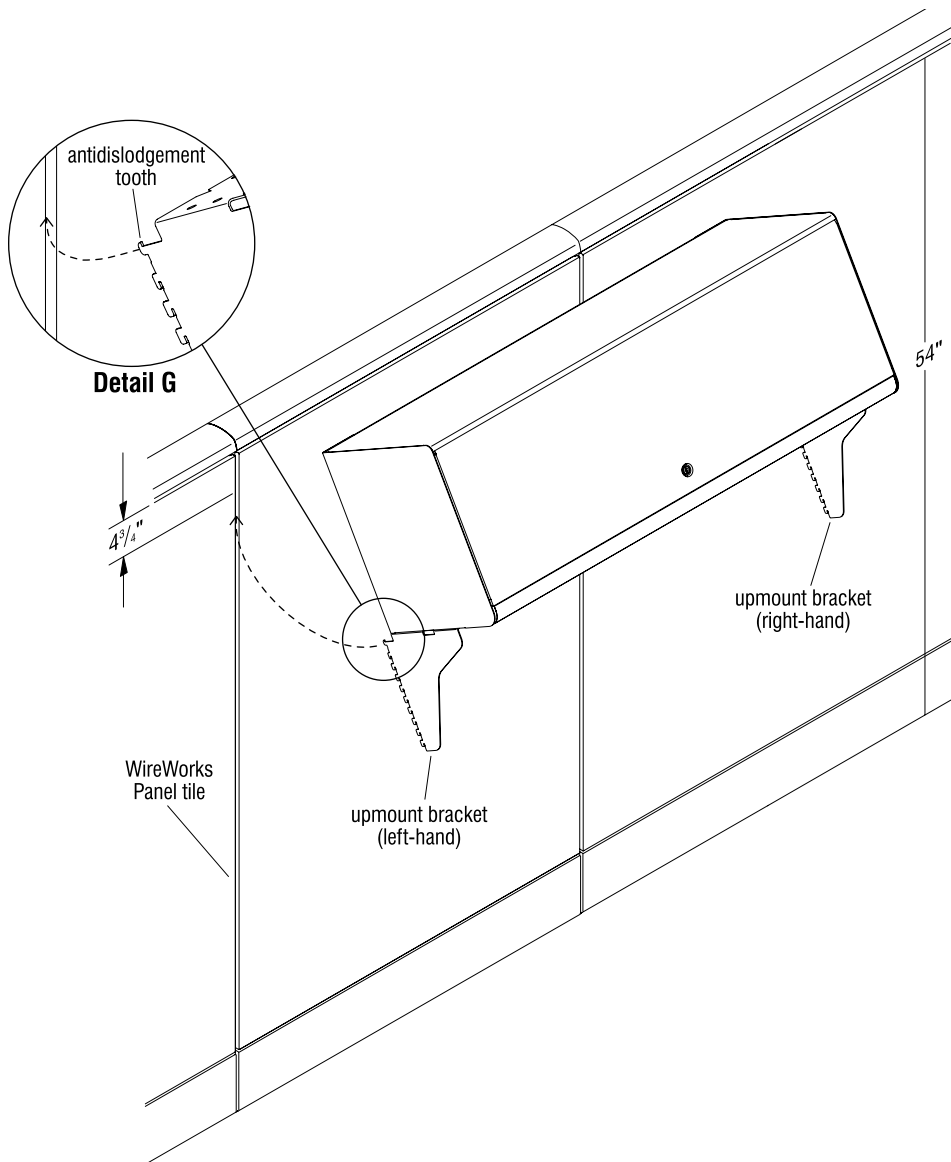

Figure 4
7. To install overhead cabinet assembly, engage the top antislodgement tooth of the upmount brackets into the panel frame by holding the bottom of the brackets out about 30°, then rotate the bracket down to engage all the remaining teeth. When all teeth are engaged, press down on the cabinet assembly to lock into place (Figure 4 & Detail G).